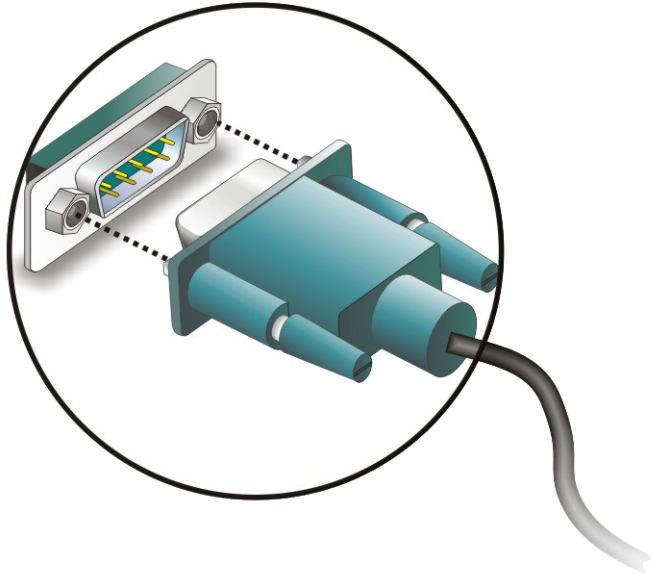

Figure 5-16: Serial Device Connector
Step 2: Insert the serial connector. Insert the DB-9 connector of a serial device into the DB-9 connector on the external peripheral interface. See **Figure 5-16**.